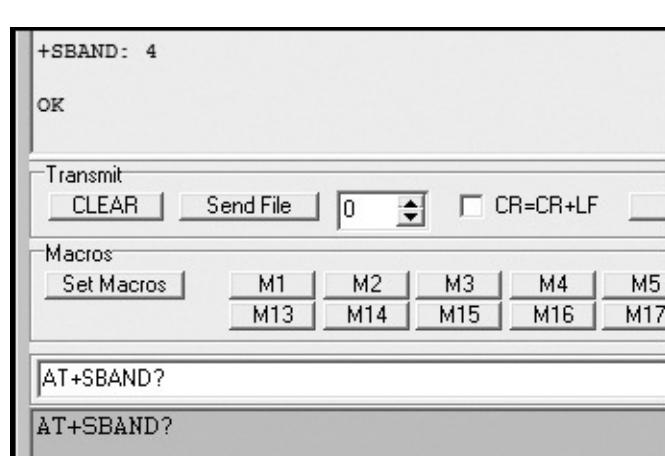

Figure 20-5. Example band interrogation
4. Enter the command **AT+SBAND?** and press ENTER. The module should reply with the current band settings, as shown in Figure 20-5.